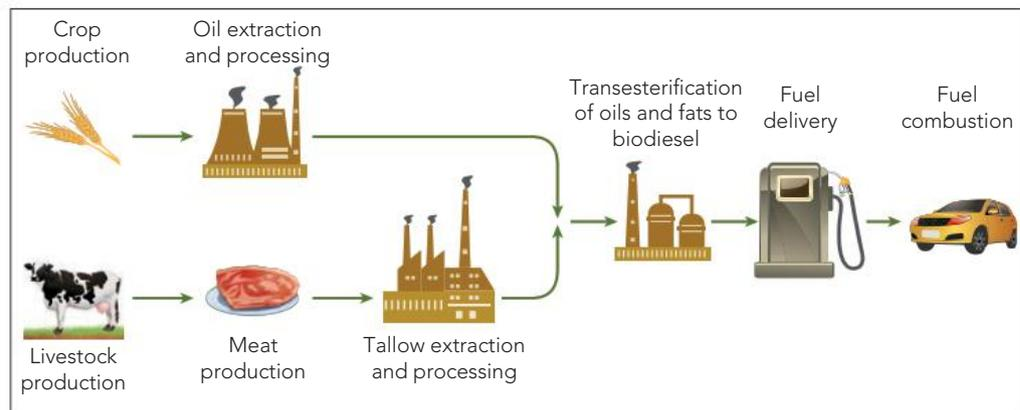

Figure 31.3 Biodiesel manufacture
- **Biodiesel.** Biodiesel is used in diesel engines for land/rail/ocean transport, road and rail haulage of goods and merchant marine shipping (e.g. container transport, fishing). The manufacture of biodiesel is shown in Figure 31.3.